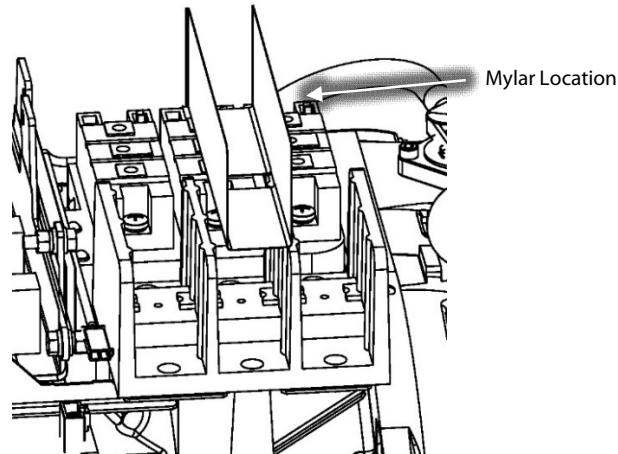

Figure 28 – Main Power Mylar Insertion
16. Torque the three (3) M8x70 fasteners that secure the motor bus bars to the inverter output to 14 Nm (10 ft.lb.).
17. Reconnect the two (2) connectors to the Thermistor Sensor Feedthroughs.
19. Install the new Manifold Mylar on the DC Bus Bar as shown in Figure 28 (DC Bus Bar Spare Mylar Placement).